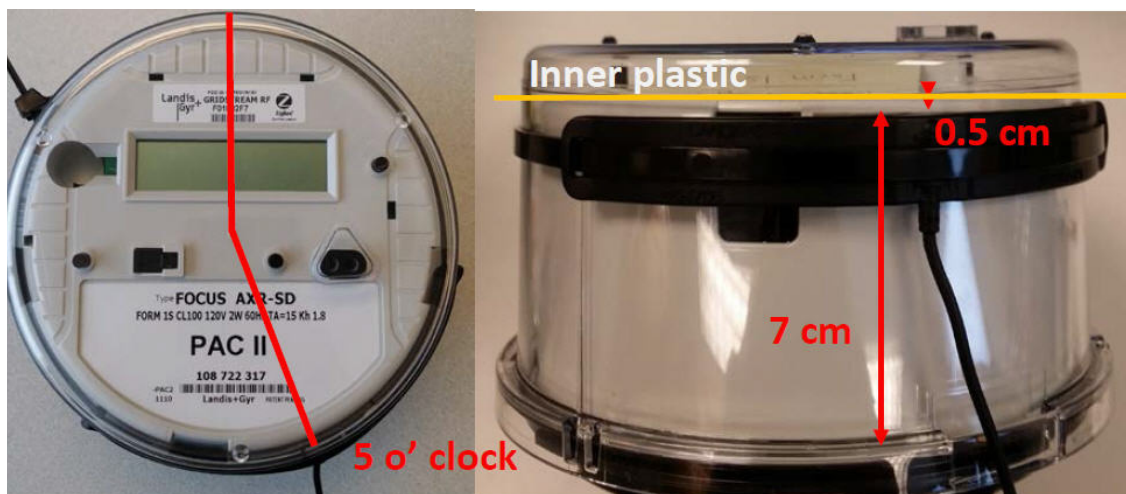

Figure 6. Installation On FOCUS Integrated AX/AX-SD Meters
3. **Firmly press the center of the antenna to the 5 o'clock position of the meter while positioning the upper edge of the antenna 0.5 cm below the inner plastic cover as shown in Figure 6.**